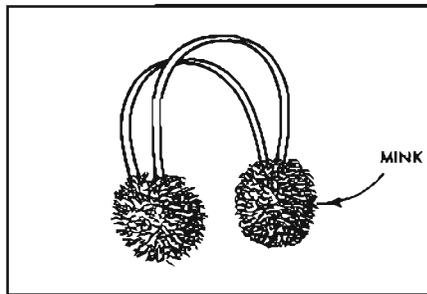
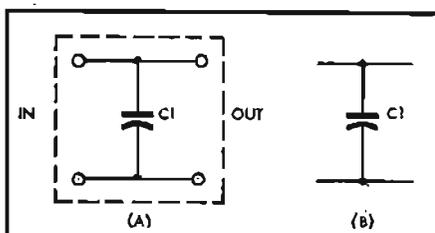

Fig. 2. Device developed to eliminate over-accentuated bass.
Fig. 1. Triangle-elimination network.
An example of such a useful adjunct to a hi-fi system is shown in Fig. 1. This device was developed by the author in response to a complaint made by a neighbor, who had invested twelve hundred dollars in a hi-fi system, and was fatigued by the sound of triangles, the musical instrument used to a great extent in swing music and Tchaikowsky. (A) shows the device developed by the author for the almost complete elimination of the sound of the triangles. The value of C , is not given, as this would depend on the associated circuitry, and may be best determined by experiment. (B) shows the connection in the circuit.
The author has devised a simple mechanical device to relieve aural fatigue resulting from this condition. Figure 2 shows a set of ear-muffs made by modifying a conventional hi-fi headset.
The TFM-151, however, sets a new standard for quality performance in a transistor portable. It uses fifteen transistors in a unique assortment of PNP and NPN types—eight in the FM tuner section, three in the AM tuner, and four in the a.f. amplifier. The entire unit, shown in Fig. 1, measures $3 \times 8\frac{1}{4} \times 9$ in. and weighs only $5\frac{1}{2}$ lbs. It is powered by four "D" cells with a total of 6 volts.
The Sony TFM-151 is the world's first transistorized AM/FM portable, and Sony deserves praise for both the design and construction. Figure 2 is an internal view of the printed-circuit construction. The AM "front end" is at the left of the gang capacitor, while the FM i.f. strip is the section just above the speaker magnet. The set could well serve for a model for any transistorized construction. A-24
Fig. 1 (left). Sony TFM-151 AM/FM transistorized portable. Fig. 2 (right). Interior of 15-transistor receiver. Note speaker magnet frame projecting through opening in printed-circuit panel.